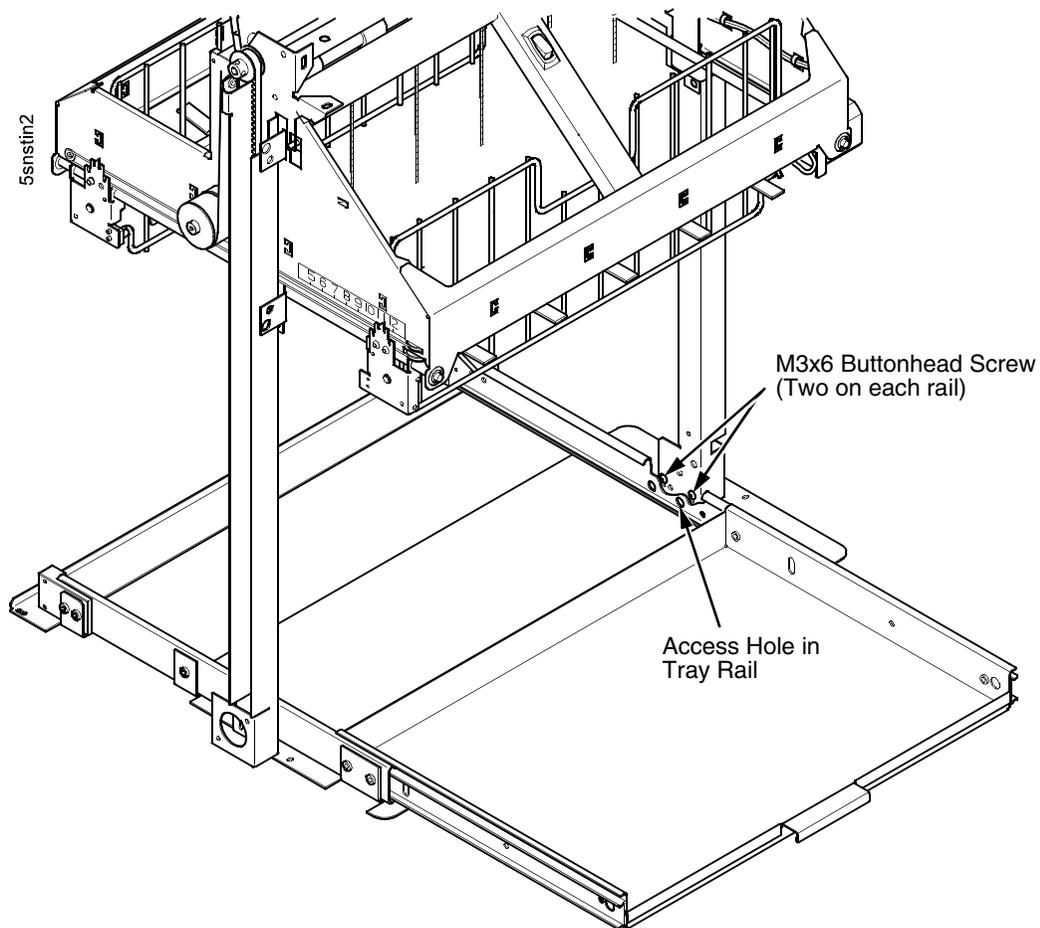

Figure 84. The Lower Screws in the Vertical Rails
31. Pull the paper tray out until the holes in the rails permit access to the M3 screws. Tighten the M3 screws securing the vertical rails to the stacker base. Each rail is secured by two screws. (Figure 84.)